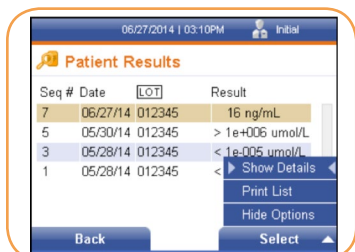

FIGURE 72
1. Press the right soft key to view options available under the Patient Results screen. The Options menu is displayed (Figure 72).